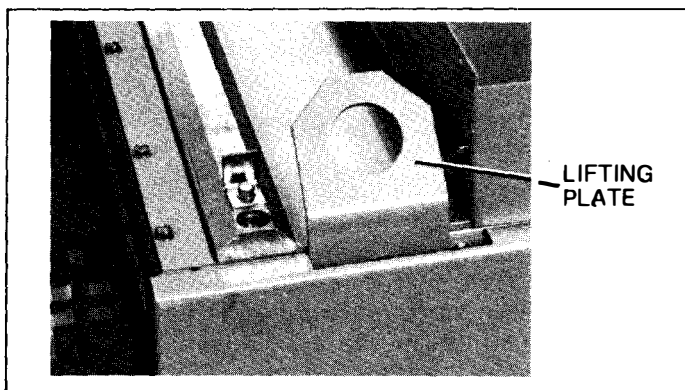
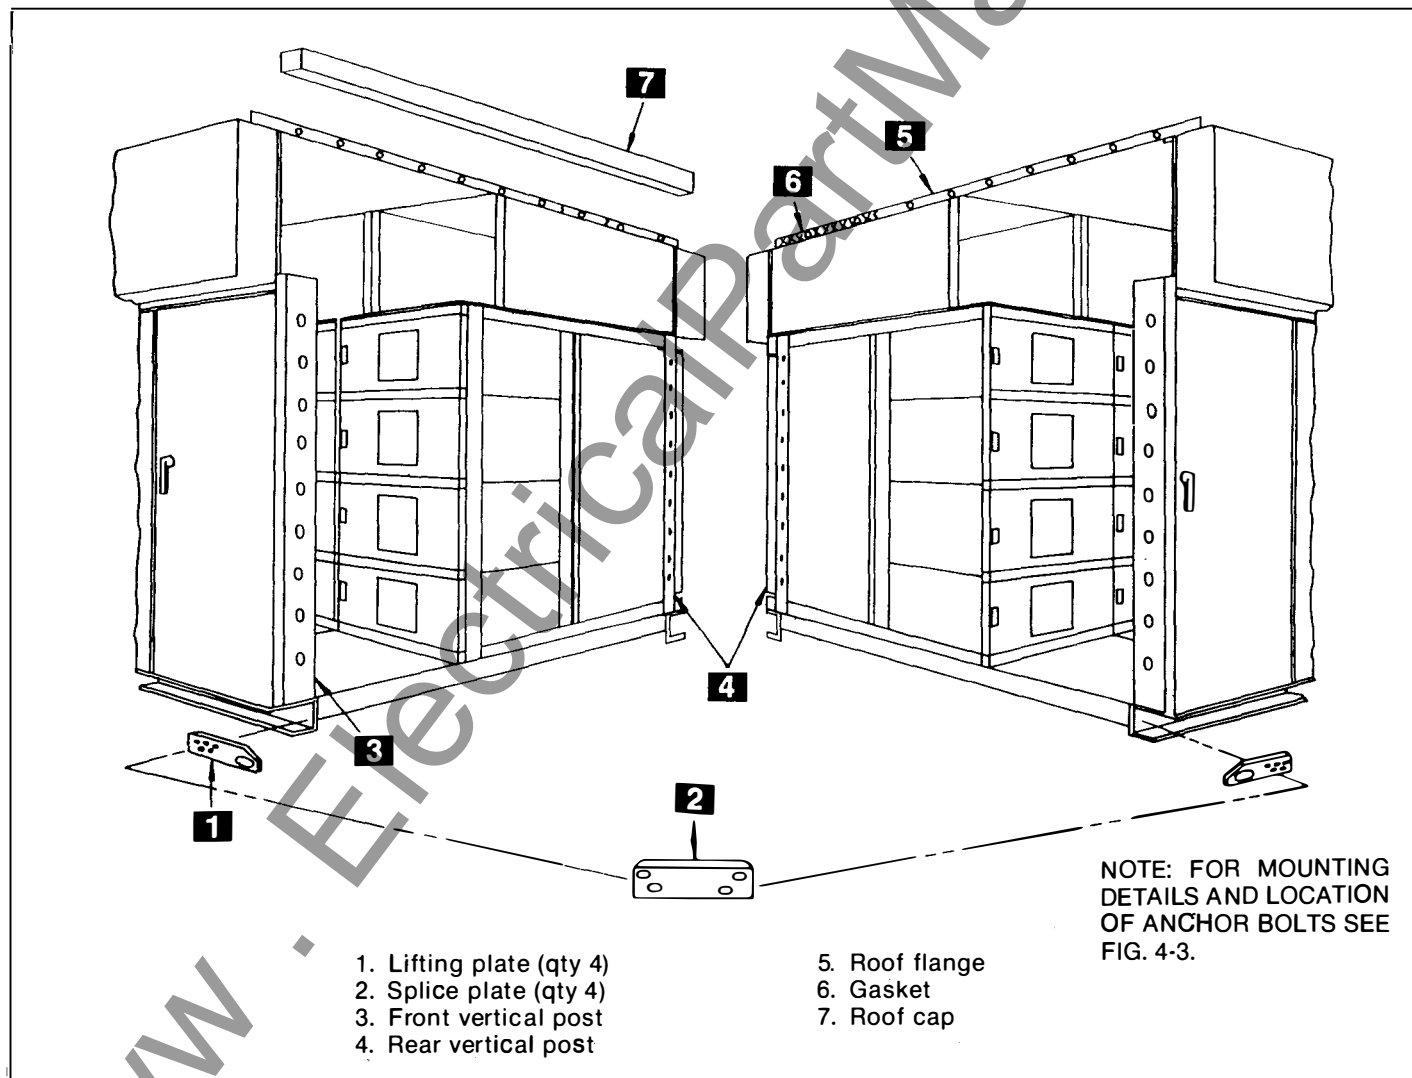
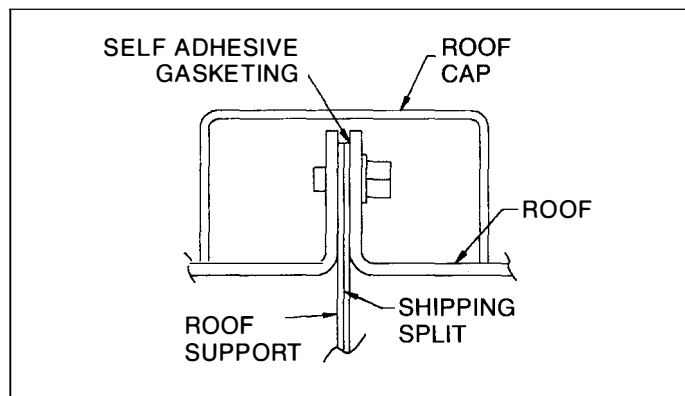

Fig. 4-5. Lifting plate location
Fig. 4-16. Outdoor enclosure shipping split assembly
Fig. 4-17. Cross-section view of assembled roof joint
NOTE: If the equipment line-up was split into shipping sections, the lifting plates on corners of adjacent sections shown in Fig. 4-5 must be removed. Failure to remove these plates will interfere with mating adjacent sections and prevent installation of bus splice plates, structure tie plates, etc.
2. **APPLY GASKET MATERIAL**—After removal of the lifting plates (see Fig. 4-5), it is necessary to apply the self adhesive gasketing material (6), Fig. 4-16, to the mounting surface of the roof flange (5). The gasket material is supplied with the equipment.
4. **FASTEN SECTIONS TOGETHER**—Referring to Fig. 4-16, the mating sections of the outdoor enclosure should be immediately bolted together including the front (3) and rear (4) vertical posts and the roof flange (5). Each vertical post will require ten $\frac{3}{8}$ -16 NC x 1-inch bolt assemblies; the roof flange will require either eleven or twelve $\frac{3}{8}$ -16 NC x $\frac{1}{2}$ -inch bolt assemblies. The bolts should be tightened with a torque of 25-30 ft-lbs. Figure 4-17 is a cross-sectional view of the assembled roof joint.
5. **TIE HOUSING BASES TOGETHER**—Referring to Fig. 4-16, tie the bases of the outdoor housing together using the splice plate (2) supplied with the equipment and the bolts which previously secured the lifting plates (1) removed after emplacement of the equipment. The nuts are welded to the rear surface of the base. The bolts should be tightened with a torque of 45 ft-lbs.
6. **INSTALL THE ROOFCAP**—The roofcap (7), Fig. 4-16, should be installed over the sealed and fastened roof flange assembly (5). The roofcap is secured in place with two 1/4-20 NC x 1/2-inch thread forming bolts, each at the front and the rear ends of the roof cap. These bolts should be tightened with a torque of 7-9 ft-lbs.